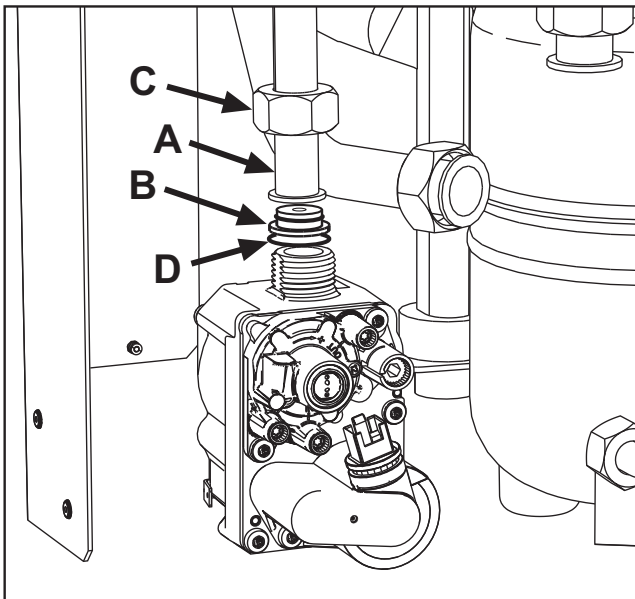

fig. 22
3. Unscrew the ring **C** and remove the gas pipe **A** from the gas valve (see fig. 22);
4. Replace the nozzle **B** inserted in the gas pipe with that contained in the conversion kit, interposing seal **D** (see fig. 22).